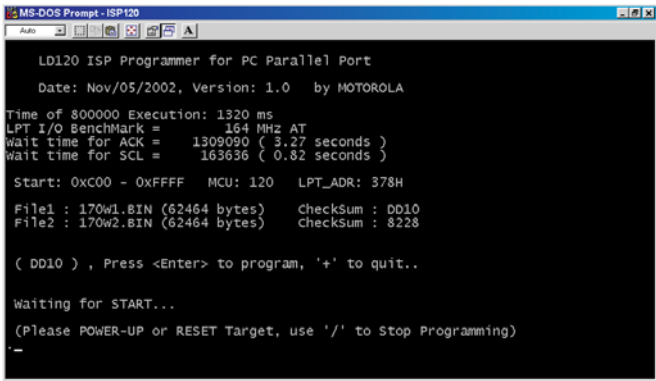

Fig. 8
Step 5-3.=> Press "Enter" key on keyboard again, bring up Fig.8.